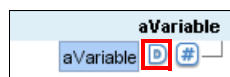

Figure 3-84 The default value icon
2. Enter a default value, and click **OK**. The default value icon displays against the field node name to indicate that a default value is set for that field node, as highlighted in Figure 3-84.